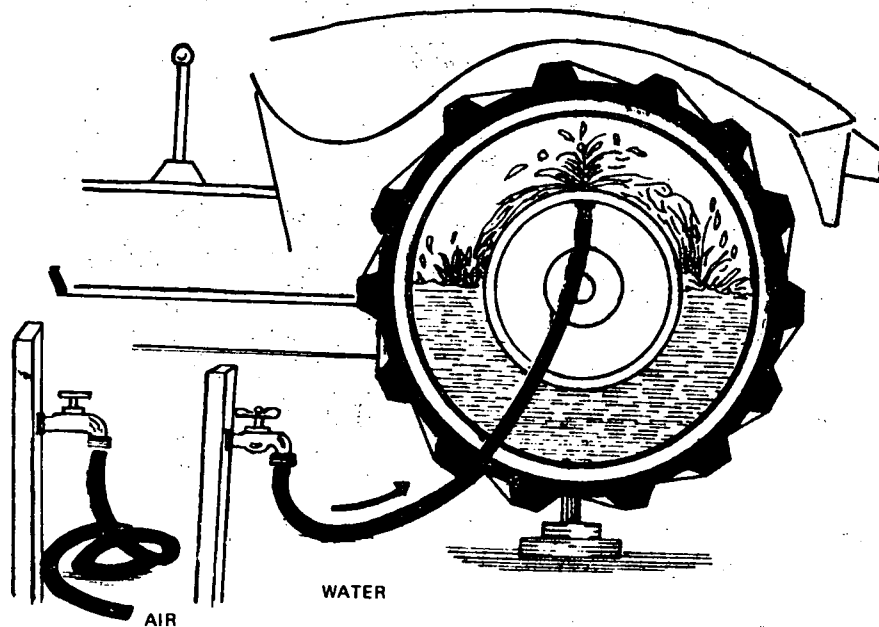

Fig. 1
- c) Open the water tap (Fig. 1).